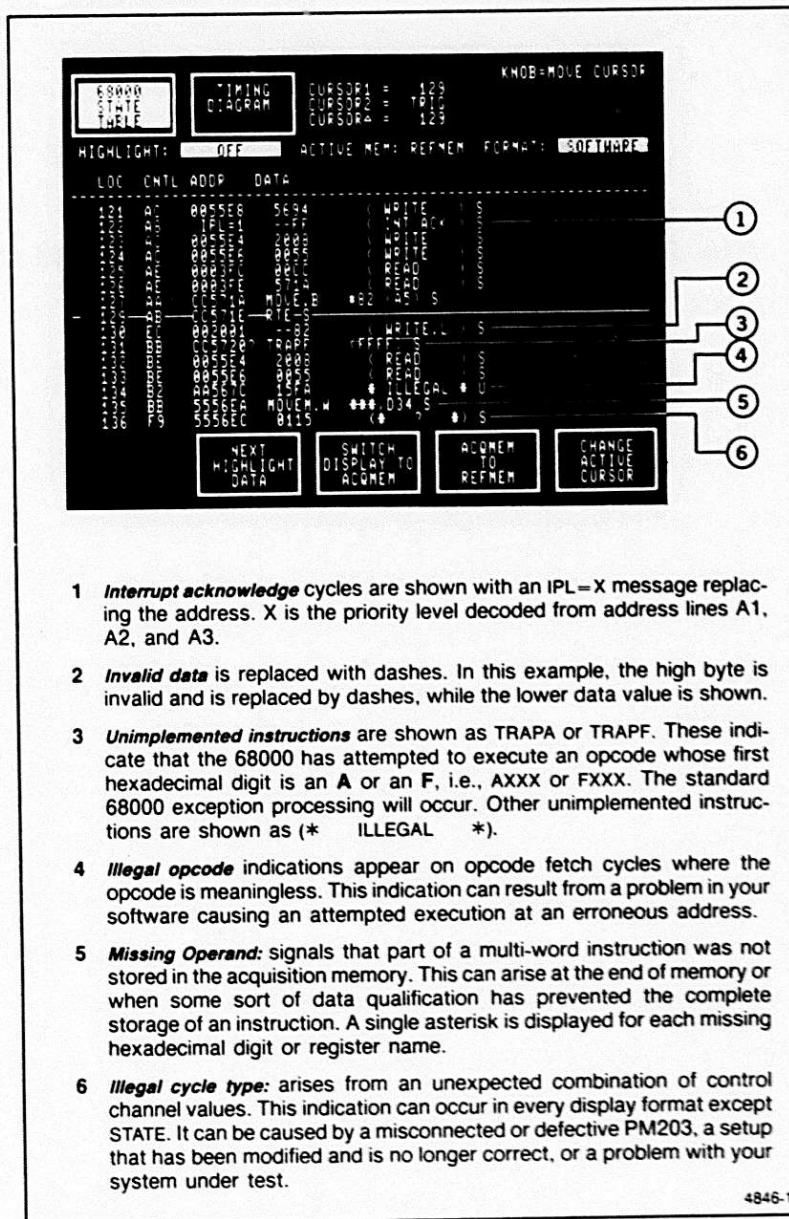

Figure 10. Special disassemblies.
The 68000 Mnemonics ROM Pack allows you to observe some of the more advanced capabilities of the 68000, but limitations imposed by the PM203 lead to some variations from standard Motorola disassembly. These special disassemblies are described in the following paragraphs and in Table 8 and Figure 10.
**Special disassemblies.** When the 68000 Mnemonics ROM Pack encounters an unexpected combination of data, or when part of the data is missing, or other events occur, one of the indications shown in Figure 10 appears in the display.